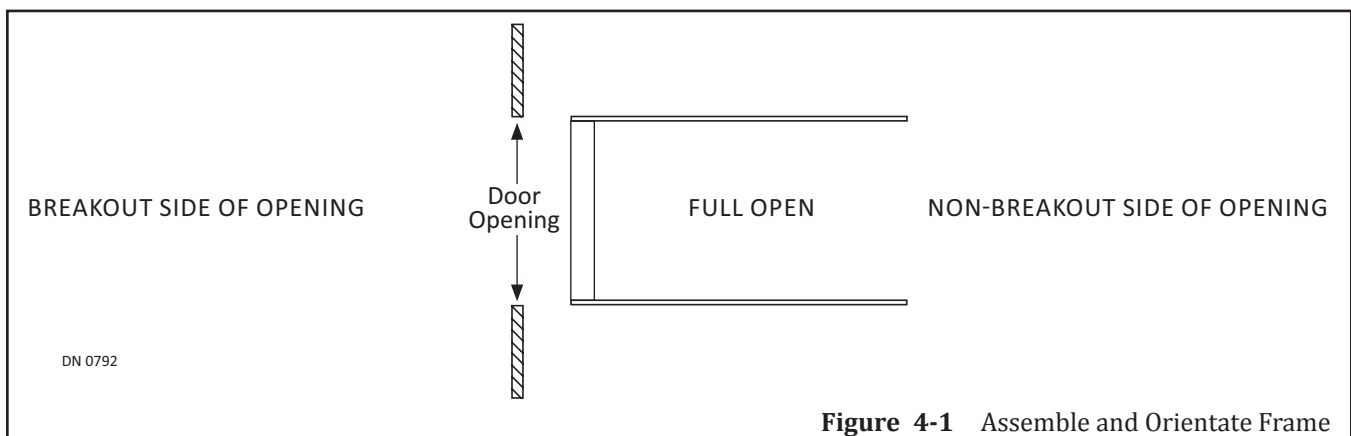

Figure 4-1 Assemble and Orientate Frame
2. Position Jamb tubes on either side of the Header according to the instruction sticker located on each Jamb tube that shows proper location and orientation. Please see Figure 4-1.